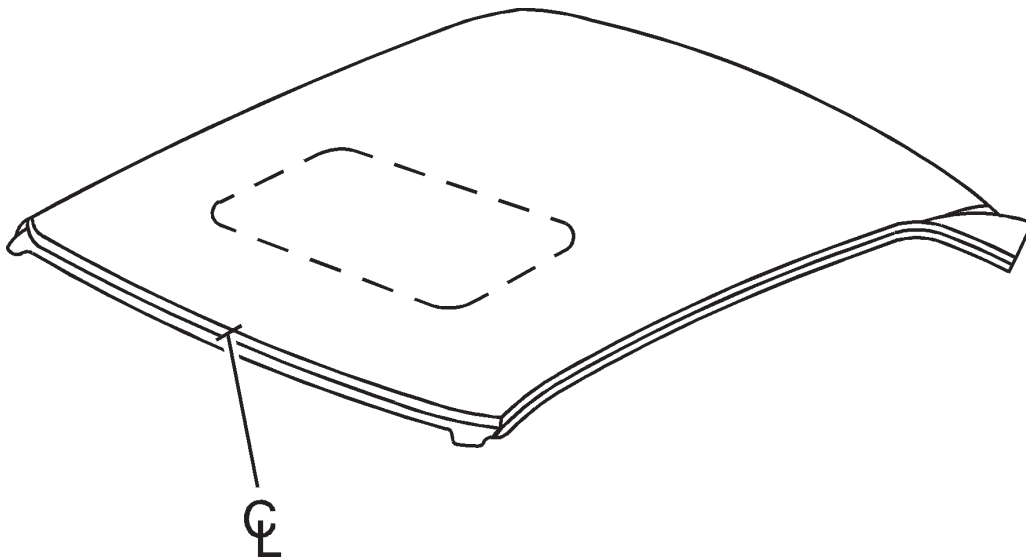

Fig. 4.27 — Die Mark Indicates Center of Roof
- 3 Position the roof panel on the vehicle. Check fit and alignment (Fig. 4.27).